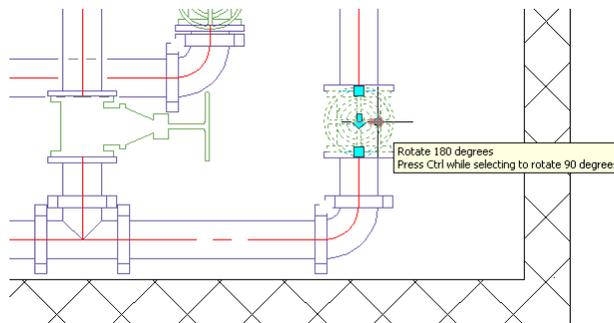

Figure 6.49
- Repeat the process to add two more valves to the discharge piping. Place one right before the elbow (right pump) and the other right before the Tee (left pump) as shown in Figure 6.49.
- After placing the valve, select it, hold down the CTRL key, and click the flip grip to rotate the valve 90 degrees instead of 180 (see Figure 6.49).